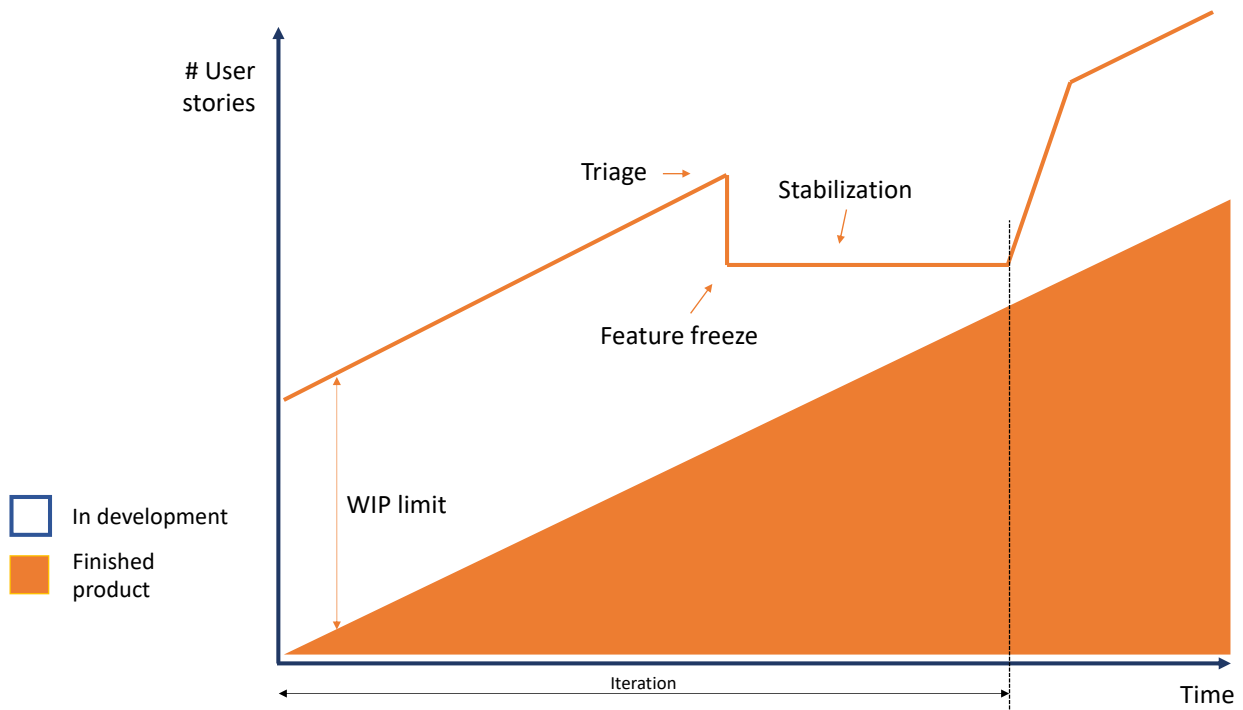

Figure 2 Ideal trajectory of a Scrumban release (source: www.continuousagile.com)
- Just before the deadline of a specific project, Scrumban applies the concept of feature freeze. No new features/user stories may be picked up from that point on (see Figure 2).
- After the feature (or user story) freeze, triage (selection) by the product owner can take place. The product owner determines which pending features/user stories will and/or will not be completed (see also Figure 2).
The team delivers user stories in a continuous stream. Since the team commits to an agreed upon iteration length, somewhere around two-thirds of the iteration the team will no longer pick up new user stories (Feature freeze in Figure 2) and some user stories may even be placed back on the backlog (Triage in Figure 2).